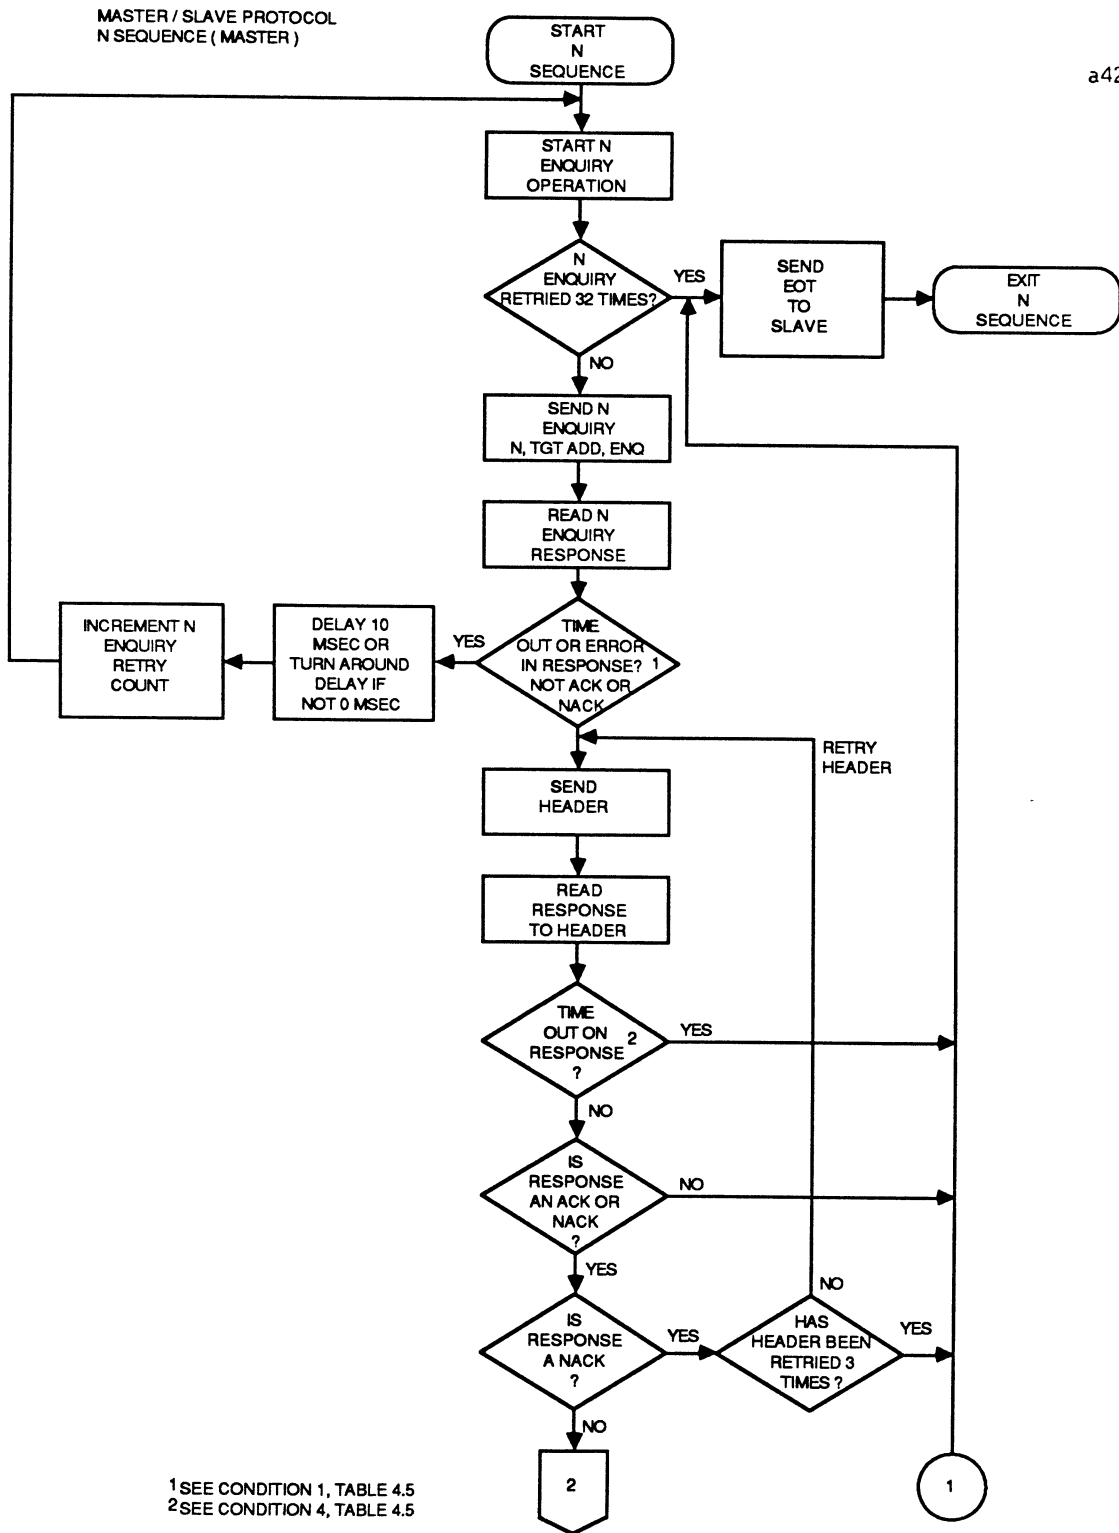

Figure 4.10 N SEQUENCE, MASTER
**Normal Sequence, Master (See Figure 4.10)**